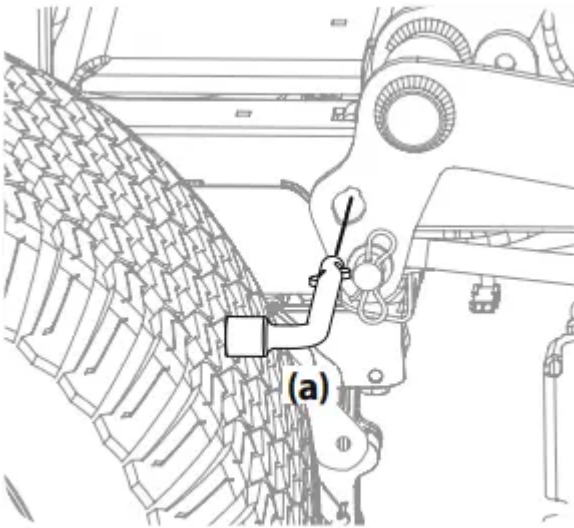

Figure 40
- 5. On tractors equipped with the deck lift knob, use the deck lift pedal and deck lift knob to place the deck in the lowest position and use the multitool (a) to lock the deck lift components in place as shown in Figure 40. On tractors with a deck lift handle, lower the deck into the lowest position.